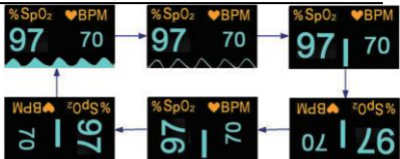

Figure 3 Six Display Modes
7. The device has six display modes shown in figure 3. If you press the switch button twice after turning on the oximeter, the device will change to another display mode.